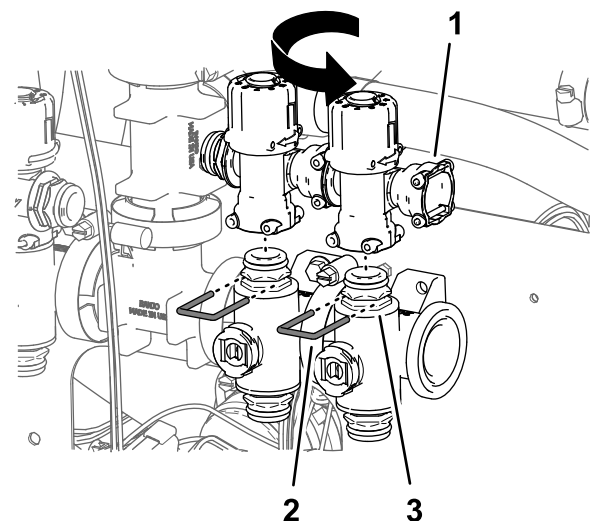

Figure 102
8. Repeat steps 5 through 7 for the bypass valves of nozzle valve 6 and nozzle valve 7 (**Figure 102**).